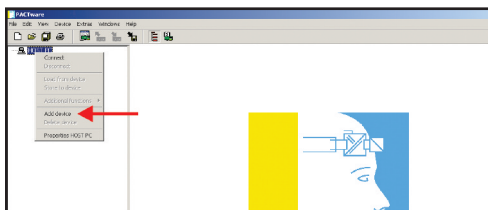

Figure 8
- In the project window click on HOST PC to highlight. Then right-click to show menu and select ADD DEVICE (see Figure 8).